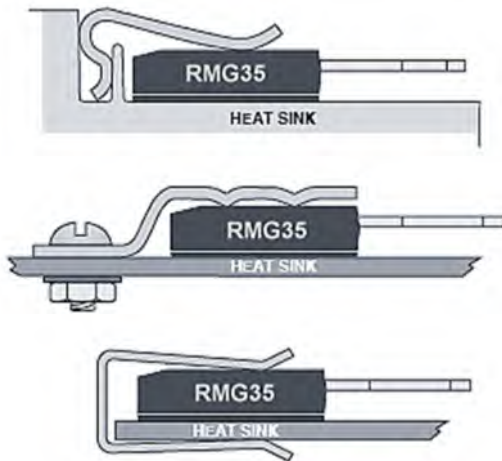

Figure 2 - Spring Clips Mounting Techniques
- Spring Clips are preferred by many designers in place of screw assembly for attaching DeMint TO-Style Power Resistors to the heat sink. These spring clips are available from several manufacturers which offers a number of standard springs and heat sinks specifically designed for clip mounting TO-220 and TO-247 packages. Spring clips offer many benefits for ease of assembly, but their biggest advantage is the consistent application of optimum force over the center of the power resistor (as shown in **Figure 2**).